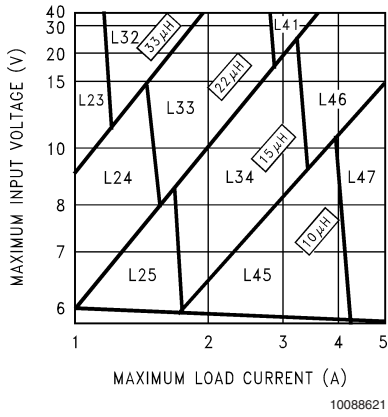
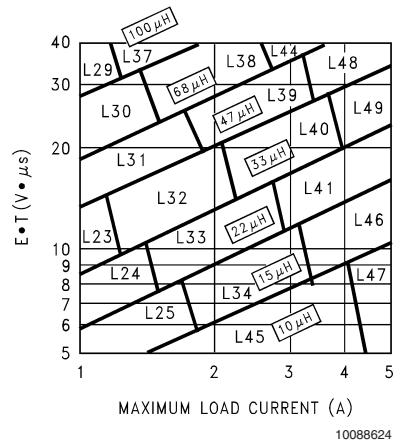

FIGURE 3. LM2678-3.3
FIGURE 6. LM2678-ADJ
**Step 3:** Determine the inductor required by using one of the four nomographs, *Figure 3* through *Figure 6*. Table 1 provides a specific manufacturer and part number for the inductor.
**Step 5:** Determine an input capacitor from Table 4 for fixed output voltage applications. Use Table 2 to find the specific capacitor type. For adjustable output circuits select a capacitor from Table 2 with a sufficient working voltage (WV) rating greater than  $V_{in\ max}$ , and an rms current rating greater than one-half the maximum load current (2 or more capacitors in parallel may be required).
**Step 3:** Use the nomograph for the 3.3V device, *Figure 3*. The intersection of the 16V horizontal line ( $V_{in\ max}$ ) and the 4A vertical line ( $I_{load\ max}$ ) indicates that L46, a 15 $\mu$ H inductor, is required.
**Step 3:** To use the nomograph for the adjustable device, *Figure 6*, requires a calculation of the inductor Volt•microsecond constant ( $E \cdot T$  expressed in  $V \cdot \mu s$ ) from the following formula:
Using *Figure 6*, the intersection of 27V• $\mu s$  horizontally and the 3.5A vertical line ( $I_{load\ max}$ ) indicates that L48, a 47 $\mu$ H inductor, or L49, a 33 $\mu$ H inductor could be used. Either inductor will be suitable, but for this example selecting the larger inductance will result in lower ripple current.
**Important Note:** When using the adjustable device in low voltage applications (less than 3V output), if the nomograph, *Figure 6*, selects an inductance of 22 $\mu$ H or less, Table 6 does not provide an output capacitor solution. With these conditions the number of output capacitors required for stable operation becomes impractical. It is recommended to use either a 33 $\mu$ H or 47 $\mu$ H inductor and the output capacitors from Table 6.